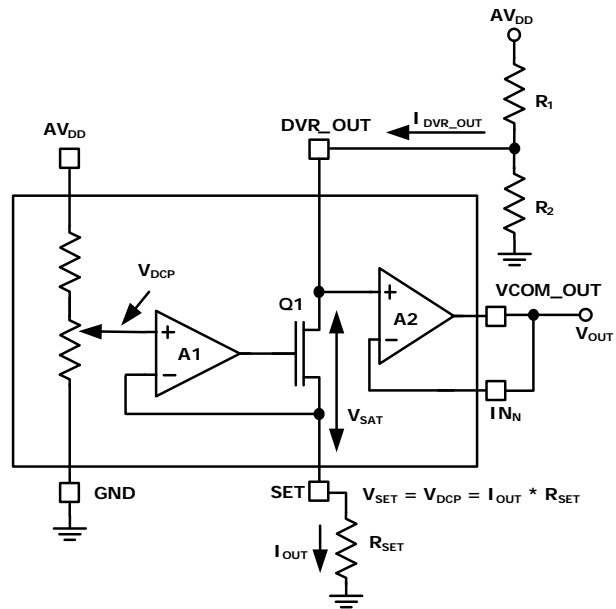

FIGURE 5. CURRENT SINK CIRCUIT
**Electrical Specifications** Test Conditions: VDD = 3.3V, AVDD = 18V, RSET = 5k $\Omega$ , R1 = 10k $\Omega$ , R2 = 10k $\Omega$ , (See Figure 5), VCOM\_OUT pin connected to INN, unless otherwise specified. Typicals are at TA = +25°C. **Boldface limits apply over the operating temperature range, -40°C to +85°C.**
**Electrical Specifications** Test Conditions:  $V_{DD} = 3.3V$ ,  $AV_{DD} = 18V$ ,  $R_{SET} = 5k\Omega$ ,  $R_1 = 10k\Omega$ ,  $R_2 = 10k\Omega$ , (See Figure 5),  $V_{COM\_OUT}$  pin connected to  $IN_N$ , unless otherwise specified. Typical values are at  $T_A = +25^\circ C$ . **Boldface limits apply over the operating temperature range,  $-40^\circ C$  to  $+85^\circ C$ .** (Continued)
The ISL24211 uses a digitally controllable potentiometer (DCP), with 256 steps of resolution (see Figure 4) to change the current drawn at the DVR\_OUT pin, which then changes the voltage created by the  $R_1$  to  $R_2$  resistor divider (see Figure 5). The DVR\_OUT voltage is then buffered by A2 to generate a buffered output voltage at the  $V_{COM\_OUT}$  pin, capable of directly driving the  $V_{COM}$  input of an LCD panel. The amount of current sunk is controlled by the setting of the DCP, which is recalled at power-up from the ISL24211's internal EEPROM. The EEPROM is typically programmed during panel manufacture. As noted in the Electrical Specifications on page 4, the ISL24211 requires a minimum  $AV_{DD}$  voltage of 10.8V for EEPROM programming, but will work in normal operation (with no EEPROM programming) down to 4.5V.
Figure 5 shows the schematic of the DVR\_OUT current sink. The combination of amplifier A1, transistor Q1, and resistor  $R_{SET}$  forms a voltage-controlled current source, with the voltage determined by the DCP setting.
With amplifier A2 in the unity-gain configuration ( $V_{COM\_OUT}$  tied to  $IN_N$  as shown in Figure 5),  $V_{DVR\_OUT} = V_{COM\_OUT} = V_{COM}$ .